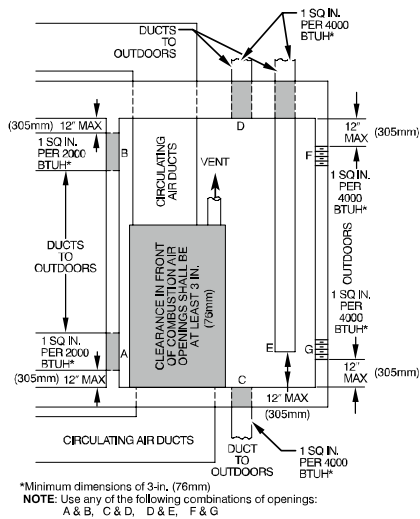

Fig. 8 – Air for Combustion, Ventilation, and Dilution for Outdoors
2. Provide **TWO OUTDOOR OPENINGS**, one inlet and one outlet combustion and ventilation air opening, to the outdoors, see Fig. 8.
- b. Size openings and ducts, see Fig. 8 and Table 4.
- c. **TWO HORIZONTAL DUCTS** require 1 sq. in. (645 sq. mm) of free area per 2,000 BTU_h (1,100 mm²/kW) of combined input for all gas appliances in the space, see Fig. 8 and Table 4.
- d. **TWO OPENINGS OR VERTICAL DUCTS** require 1 sq. in. (645 sq. mm) of free area per 4,000 BTU_h (550 mm²/kW) for combined input of all gas appliances in the space, see Fig. 8 and Table 4.
- a. 1 sq. in. (645 sq. mm) of free area per 3,000 BTU_h (734 mm²/kW) for combined input of all gas appliances in the space, see Fig. 8 and Table 4.